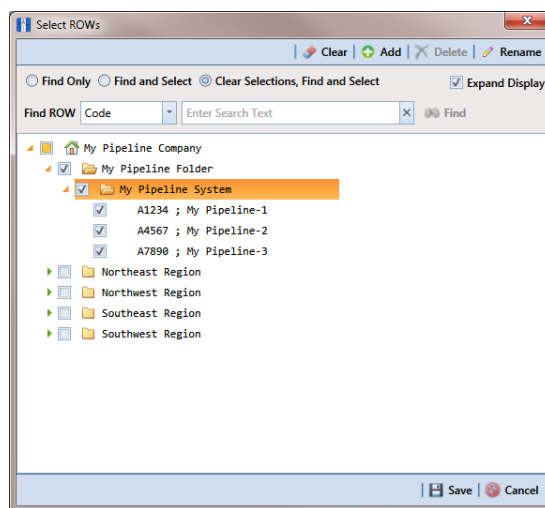

Figure 4-10. Select ROWs
- 1 Click **File > Select ROWs** to open the *Select ROWs* window (Figure 4-10).